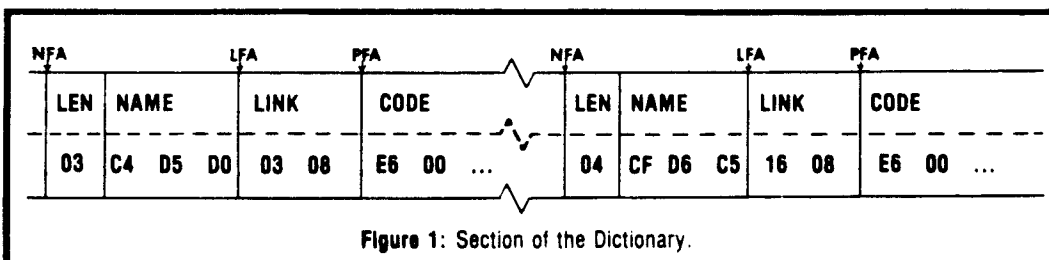

Figure 1: Section of the Dictionary.
- **Word:** A named routine, consisting of a header followed by machine language code or data of some sort. See Figure 1.